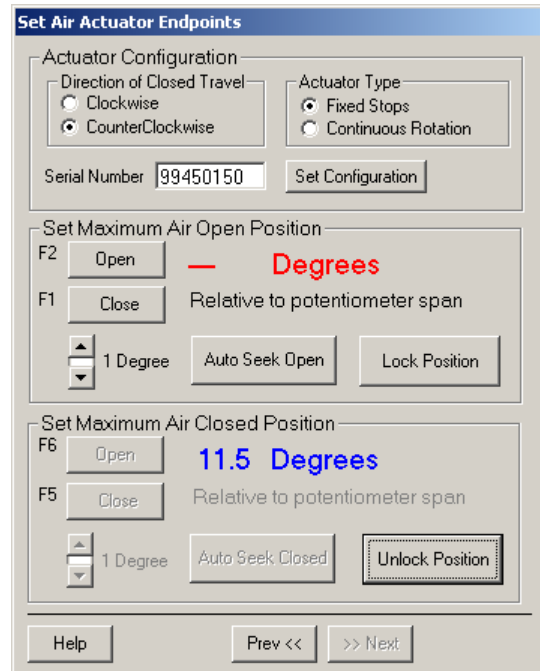

Fig. 9. Move actuator closed position five degrees off mechanical closed fixed stop.
3. Move the actuator closed position five (5) degrees off the mechanical closed fixed stop. See Fig. 9.